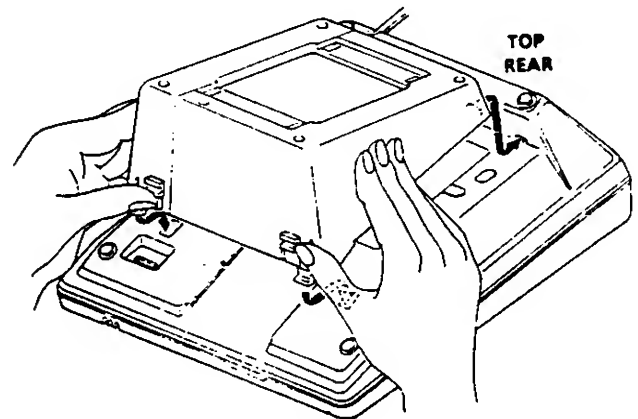

Figure 260-8
4. Attach the Wall Mount to the terminal by guiding the two straight tabs on the Wall Mount into the two notches on the top rear of the Multiline Terminal. Apply pressure to the Rubber Thumb Guards until the Wall Mount snaps in place attaching it securely (See Figure 260-8).